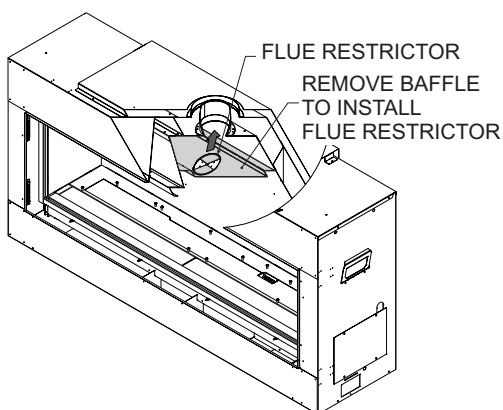

Figure 41
For installation of the restrictor after the venting is installed, remove (2) screws from each end of the flue baffle and set aside. Insert the restrictor up into the flue collar and position it as shown in Figures 41 and 42. Then, re-install the flue baffle.